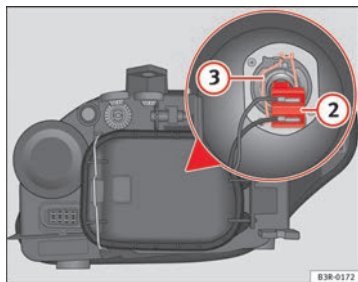

Fig. 194 Dipped beam headlights
- Pull the connector ⇒ fig. 194 ② from the bulb.
- Unclip the retainer spring ⇒ fig. 194 ③ pressing inwards to the right.